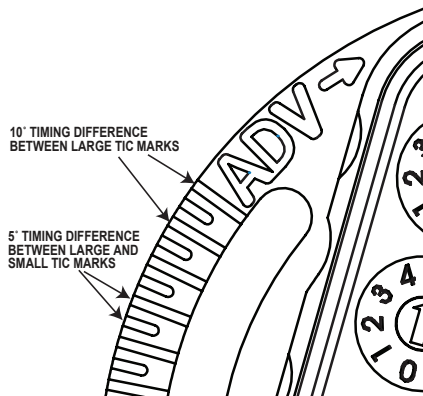

Figure 11
- If after setting initial timing, you find that starting is poor, you can try advancing the initial timing. You can increase the advance by rotating the ignition clockwise as shown by the "ADV" marking and arrow on the ignition near the MODE switch. You can use the tic marks on the outside of the HI-4N mounting slots for timing reference. There is 10 deg between the large tic marks and 5 deg between the large and small tic marks **See Figure 11**. Most kick start applications work better with an initial timing of 8 deg BTDC. Electric start applications work well with an initial timing of 5 deg BTDC. Note that this will also increase the total advance timing by the same amount.